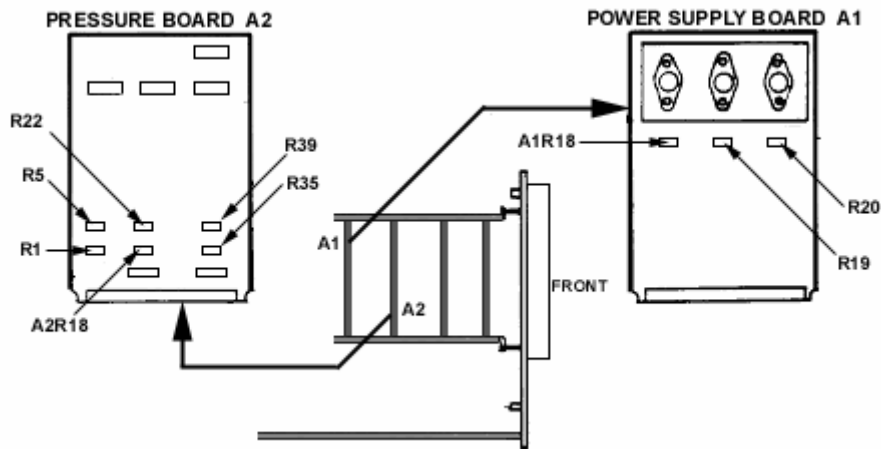

Figure 4. Simulator unit - internal left view.
- (1) Set autotransformer and dc power supply to **OFF**, and calibrator to **STBY**.
- (2) Remove pressure board A2 (fig. 4) and reinstall, using extender board.
- (3) Set autotransformer, dc power supply, and calibrator power to **ON**.
- (4) Adjust R5 (fig. 4) for a 3.591 V ac indication on multimeter (R).
- (5) Turn **ENGINE OIL PRESS NO. 1** variable control fully ccw.
- (6) Adjust R1 (fig. 4) for a 3.591 V ac indication on multimeter (R).
- (7) Adjust R22 (fig. 4) for a 3.591 V ac indication on multimeter (R).
- (8) Turn **ENGINE OIL PRESS NO. 2** variable control fully ccw.
- (9) Adjust A2R18 (fig. 4) for a 3.591V ac indication on multimeter (R).
(1) Set autotransformer and dc power supply to **OFF**, and calibrator to **STBY**.
(2) Remove pressure board A2 (fig. 4) and reinstall, using extender board.
(3) Set autotransformer, dc power supply, and calibrator power to **ON**.
(4) Adjust R39 (fig. 4) for a 3.591 V ac indication on multimeter (R).
(5) Turn **XMSN OIL PRESS** variable control fully ccw.
(6) Adjust R35 (fig. 4) for a 3.591 V ac indication on multimeter (R).
(7) Repeat **a** (2) through (6) above and adjust for best in-tolerance condition.